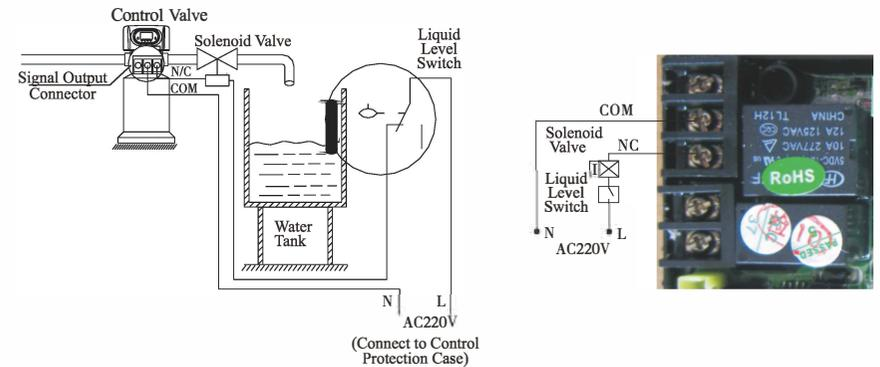

Figure 3-1 Wiring of Solenoid Valve on Outlet
① Solenoid valve on outlet controls water level in water tank.
**Instruction:** If system strictly requires no hard water flowing from outlet in regeneration cycle (mainly for no hard water flow out when valve is switching or valve in backwash or brine drawing positions), a solenoid valve could be installed on outlet, the wiring refer to Figure 3-1.